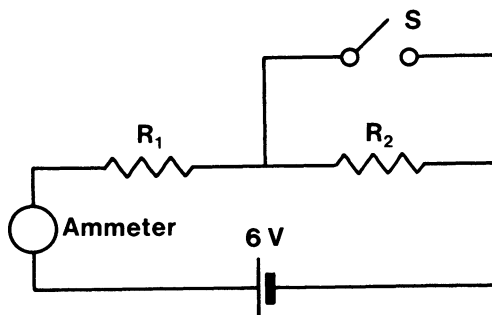

FIG. 3.16
12. In the circuit shown in Fig. 3.16, when S is closed, the reading on the ammeter is 3 A. When S is open, the reading on the ammeter is 2 A.